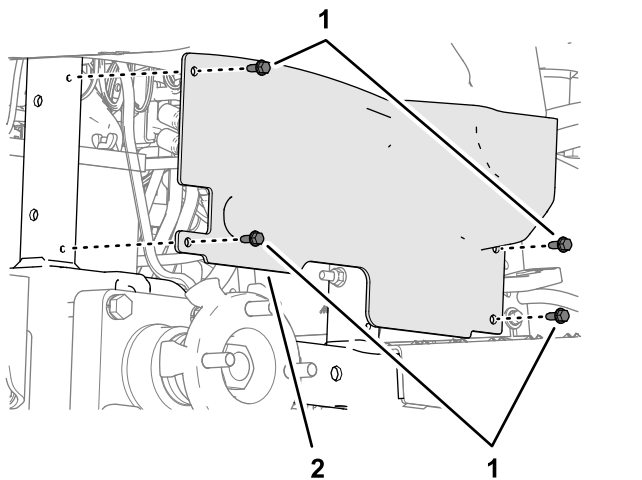

Figure 31
3. Remove the 4 flange capscrews (1/4 x 5/8 inch) that secure the wheel shroud to the frame of the machine (Figure 31).
6. Align the holes in the wheel shroud with the frame of the machine (Figure 31), and secure the shroud to the frame with 4 flange capscrews (1/4 x 5/8 inch) that you removed in step 3.